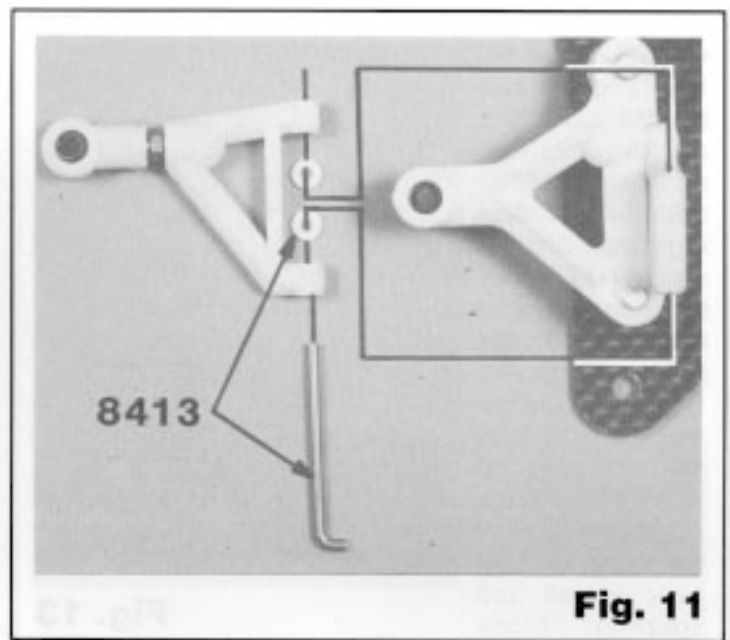

Fig. 11
Fig. 11 Locate the two #8413 upper arm hinge pins and four #8413 teflon caster shims in bag 2. We are going to install one upper suspension arm to the right side upper arm mount. Make sure that the ball end and eyelet are closer to the back of the car than to the front, and that the shoulder side of the plastic pivot ball is facing down at the same time. (1) From the front, push the hinge pin through the front side of the upper suspension arm, (2) then slide one of the teflon shims onto the pin. (3) Next slide the pin through the upper arm mount and (4) install the other teflon shim before pushing the pin through the back side of the upper suspension arm. Make sure that you have one of the teflon shims on each side of the upper arm mount. (5) Now repeat this step to assemble the left suspension arm.